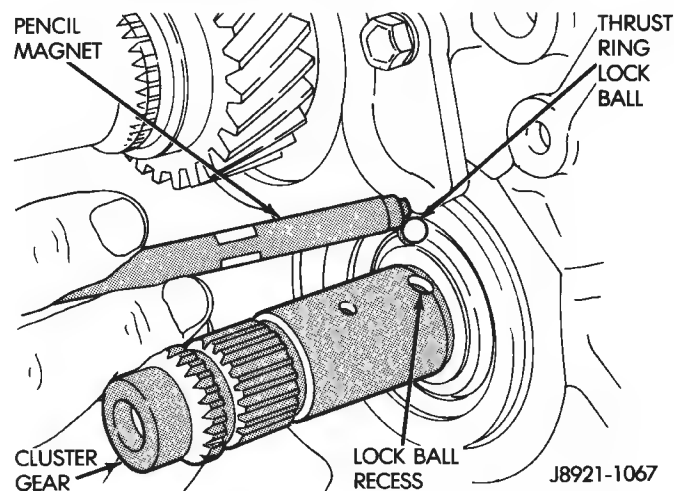

Fig. 97 Installing Thrust Ring Lock Ball
(1) Install thrust ring lock ball in duster gear journal (Fig. 97). Use petroleum jelly to hold ball in place.